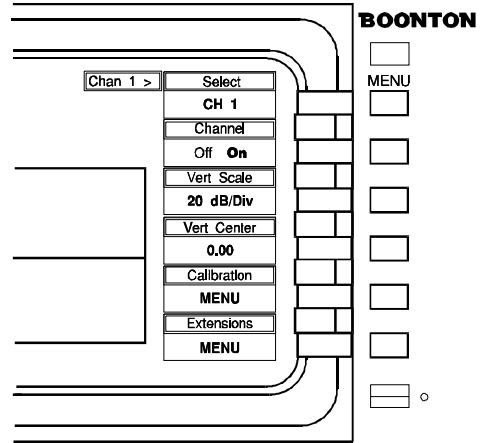

Figure 4-1a. *Chan 1 > Menu*
4. Two entries (one of which is highlighted) appearing side-by-side within a menu indicate a *Toggle*. See, for example, the *Chan 1 > Channel* selection box in Figure 4-1a. Press the associated menu key to toggle the selection between “Off” and “On.”
5. A *Parameter Value* in a selection box represents the current value of that parameter. See the *Chan 1 > Vert Center* selection box in Figure 4-1a. To change a Parameter Value, highlight the selection by pressing the associated menu key. Normally one of the selection boxes will be highlighted automatically each time a menu is activated. Highlighting is indicated by a color change of the selection box.